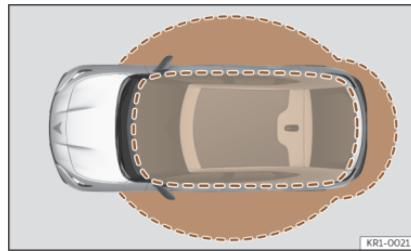

Fig. 68 Keyless Access: proximity zones.
- The vehicle is unlocked when the vehicle key is detected nearby >>> **Fig. 68**. All turn signals flash twice.